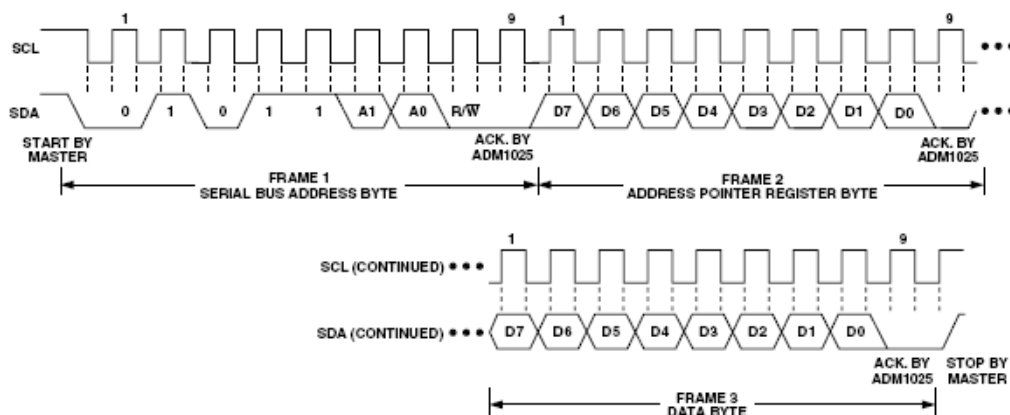
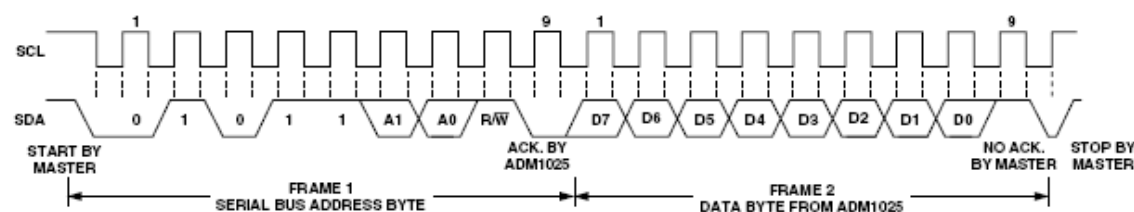

Figure 11. Writing a Register Address to the Address Pointer Register, then Writing Data to the Selected Register
Figure 13. Reading Data from a Previously Selected Register
This is illustrated in Figure 11. The device address is sent over the bus followed by R/W set to 0. This is followed by two data bytes. The first data byte is the address of the internal data register to be written to, which is stored in the Address Pointer Register. The second data byte is the data to be written to the internal data register.
A read operation is then performed consisting of the serial bus address, R/W bit set to 1, followed by the data byte read from the data register. This is shown in Figure 13.
2. In Figure 11 to Figure 13, the serial bus address is shown as the default value 01011(A1)(A0), where A1 and A0 are set by the three-state ADD pin.